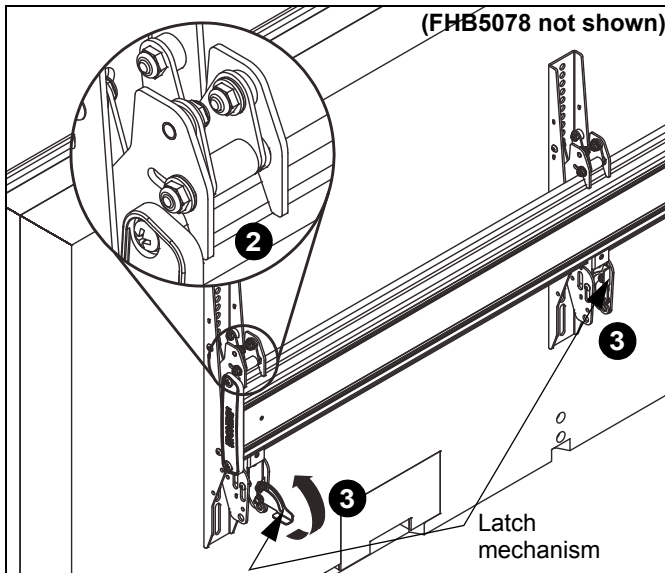

Figure 17
2. While supporting both sides of display, lower display onto one side of mounting rail, hooking top of interface brackets onto front of mounting rail. (See Figure 17)
3. Raise the latch mechanism on both interface brackets to lock bracket in place. (See Figure 17)
6. While supporting both sides of each remaining display, lower display onto mounting rail, hooking top of interface brackets onto front of mounting rail. (See Figure 17)